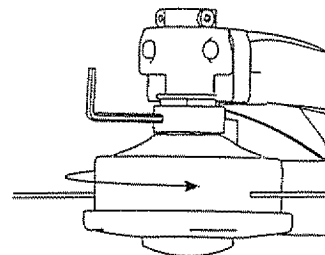

Fig.37
9. Insert allen key into hole, tighten head by turning as shown for curved shaft and opposite for straight shaft (Fig. 37).